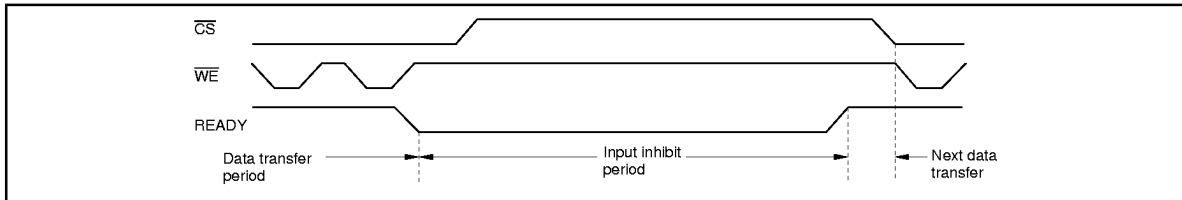

Figure 12 \overline{READY} Output Timing (When It Is Always Available)
- a. READY is mode always available (Figure 12).